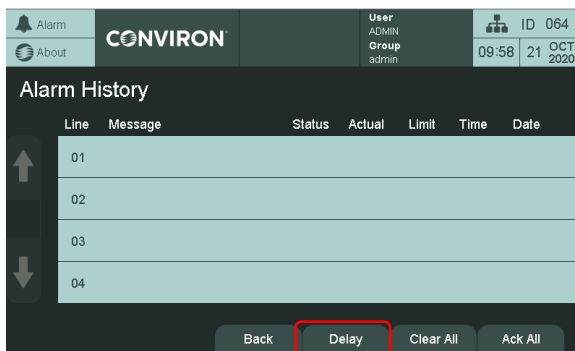

Figure 6-8 Active History Screen
2. From the **Alarm History** screen, press the **Delay** icon (Figure 6-8) to activate the alarm delay.